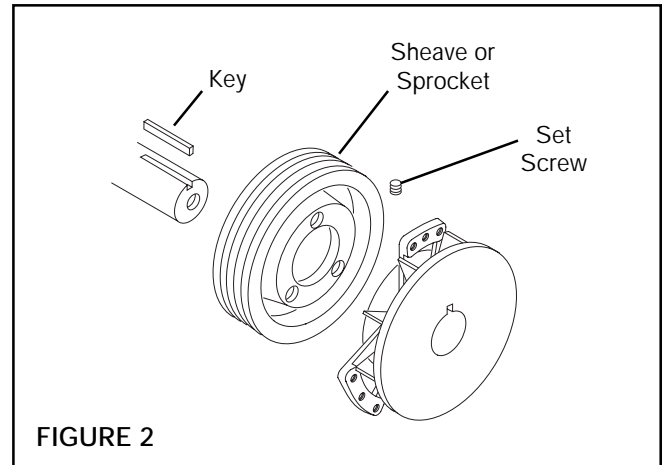

FIGURE 2
2. Using customer supplied 1/4-20 UNC cap screws, secure customer supplied sheave or sprocket to TCC-7 (See Figure 2).
3. Insert Nexen supplied Key (Item 6) into machine Shaft (See Figure 2).
4. Slide TCC-7 onto machine shaft (See Figure 2).
5. Tighten Set Screws (Item 3) to 7 Ft. Lbs. [9.5 N•m] torque (See Figure 2).